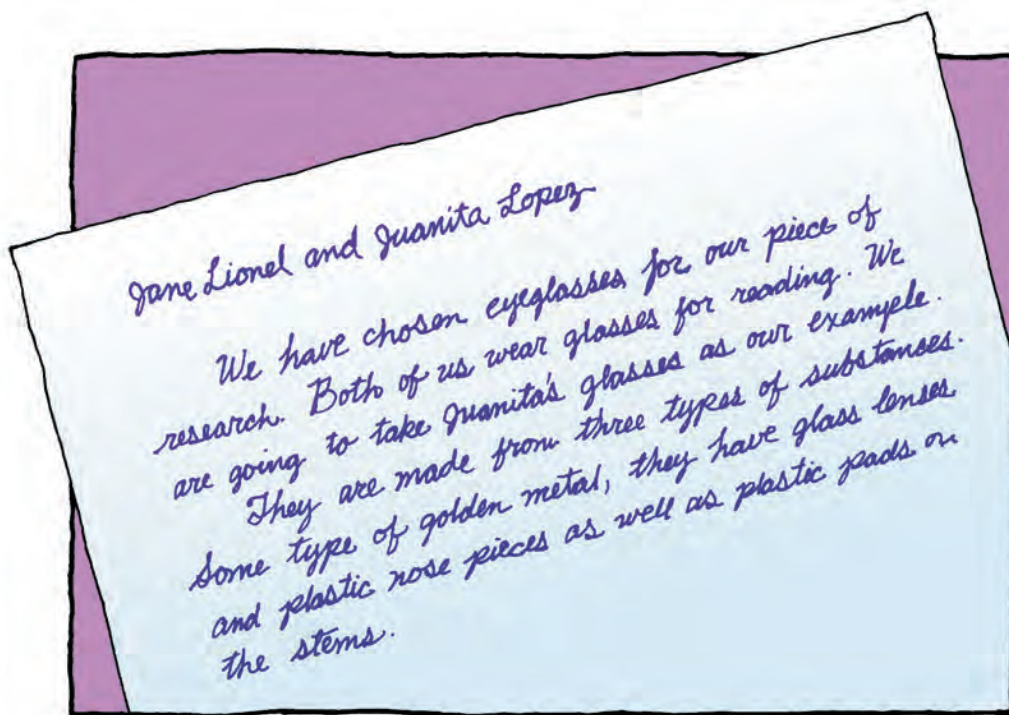

Figure 10.1 Sample paragraph identifying an object and outlining the reason for its choice
2. During the next week, meet with your partner and write a short paragraph identifying the object you have chosen. Give the reasons for your choice (Figure 10.1 shows a sample paragraph). Hand it in by the due date on your schedule. Your teacher must approve your object. If too many pairs choose the same object, you may be asked to select another.